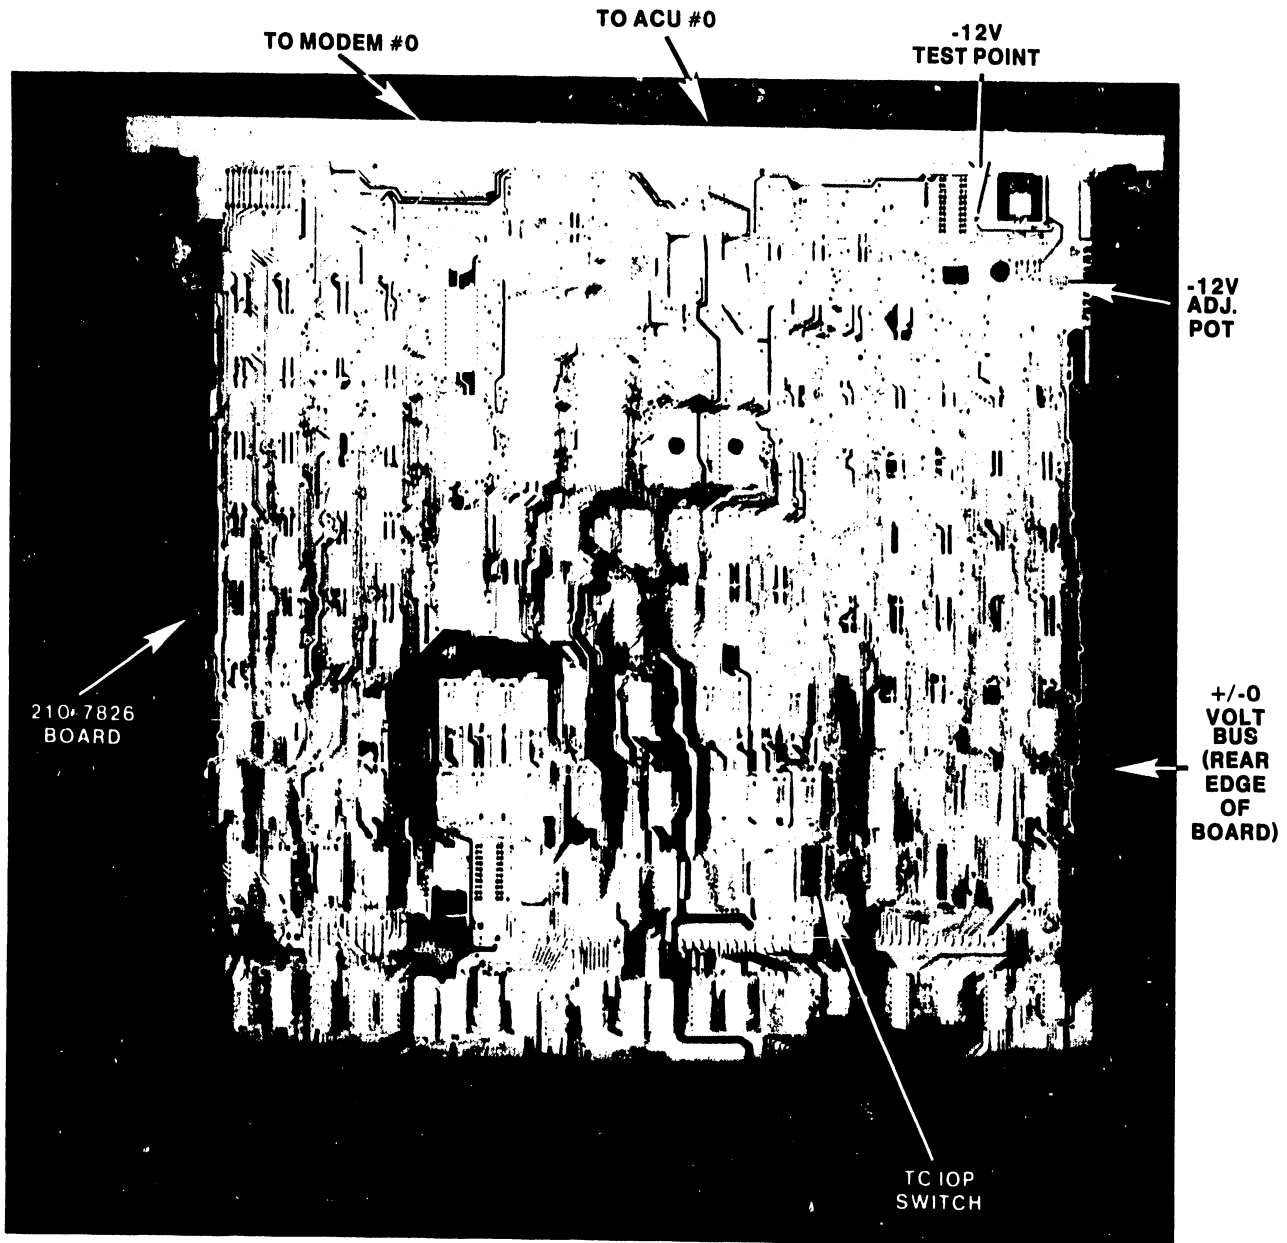

Figure 5-29. 22V26-3 TC IOP
- a. Connect the negative lead of a digital voltmeter to the -12 Volt test point and the positive lead to the +/- 0 Volt bus. (Figure 5-29.)
- b. Adjust the trimpot (figure 5-29) until the meter reads -12 Volts, +/- 0.5 Volts.